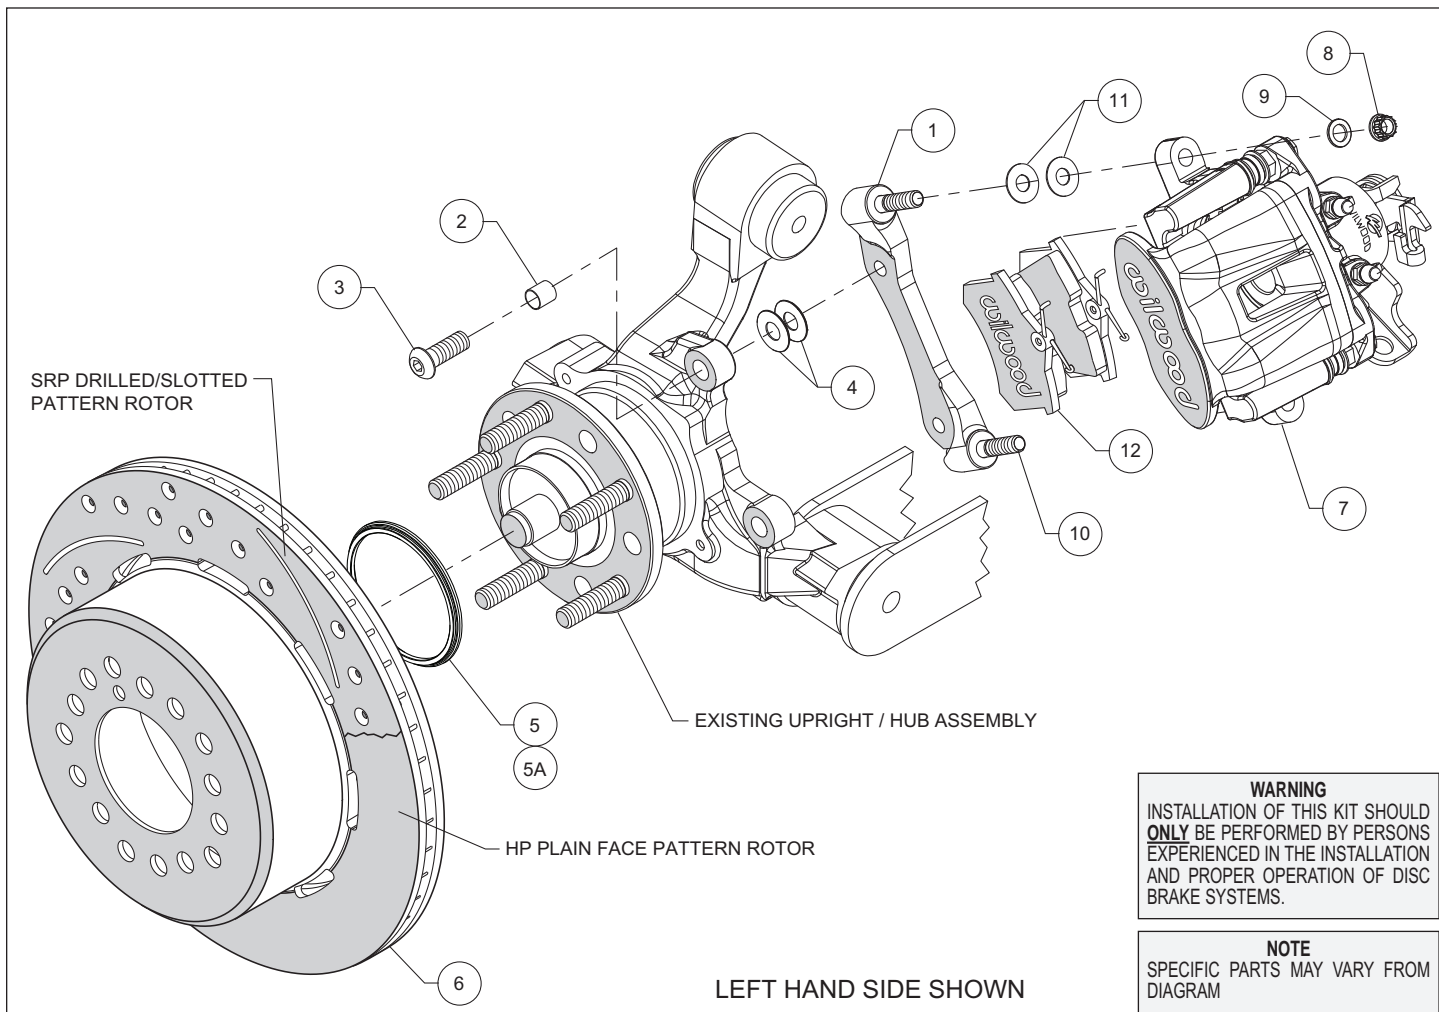

Figure 1. Typical Installation Configuration
• The caliper mount bracket (1) should initially be installed with clean, dry threads on the mounting bolts. Insert sleeves (2) into caliper bracket mounting holes in upright, Figure 1. Orient the bracket as shown in Figure 1, and install using bolts (3). Initially place two .030" thick shims (4) on each bolt between the bracket and upright, Figure 1. Temporarily tighten the mounting bolts. **NOTE:** The bracket must fit squarely against the mount bosses on the upright. Inspect for interference from casting irregularities, machining ridges, burrs, etc. Later, after the caliper alignment has been checked, the mount bolts will be secured using red *Loctite*® 271.
• Slide the rotor registration adapter (5) for Factory Five / Ford Racing hubs, or (5A) for IRS 8.8" hubs onto the axle register on the axle hub with the smaller O.D. facing outward toward the rotor/hat (6), Photo 2.
• Align the correct hole pattern in the rotor/hat with the stud pattern on the axle flange and slide into place, Figure 1 and Photo 3. **NOTE:** The rotor/hat must fit flush against the axle flange or excessive rotor run out may result. Install three lug nuts (finger tight) to keep the rotor/hat assembly in place while continuing with the installation. **NOTE:** Some OEM and after market axles come with stud sizes larger than 0.50" diameter. Verify stud size and have a qualified machine shop drill the bolt circle of the hat/rotor to the correct stud size, if necessary.
• Slide the brake pads (12) up into the caliper (7) from the bottom with the friction material facing the rotor until the "v" spring clip snaps into place against the anvil, as shown in Figure 1 and Photo 4. They should install easily without interference.
•Lubricate the caliper mounting studs (10) with lightweight oil. Initially place two .035" thick shims (11) on each stud as shown in Figure 1. Mount the caliper (7) onto the bracket (1) using washers (9) and lock nuts (8), as shown in Figure 1. Temporarily tighten the mounting nuts and view the rotor (6) through the top opening of the caliper. The rotor should be centered in the caliper, Photo 5. If not, adjust by adding or subtracting .030" shims (4) between the caliper mounting bracket and the upright to center the caliper on the rotor. Always use the same amount of shims on each of the two mounting bolts. Once the caliper alignment and pad centering are correct, remove the bolts (3) one at a time, apply red *Loctite*® 271 to bolt threads, and torque to 40 ft-lb.